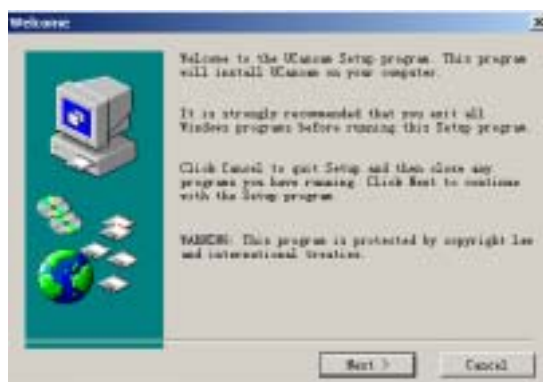

Fig.1-2
4. Then the welcoming dialog is shown (Fig.1-2). It is suggested to close other running programs during installation of this software to avoid incorrect installation. (Press **Alt +Tab** to switch among programs.)